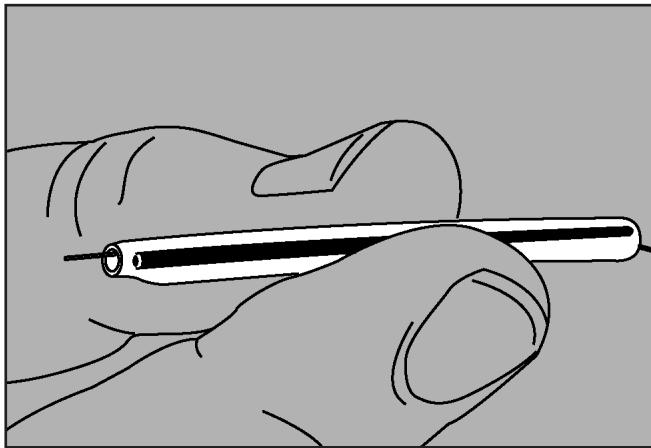

Figure 15
- Select and carefully remove the two fibers to be spliced from splice tray. Position a splice protector over one fiber only away from the work area. Prepare, clean, and cleave both fibers for splicing as per company practice. (Figure 15)